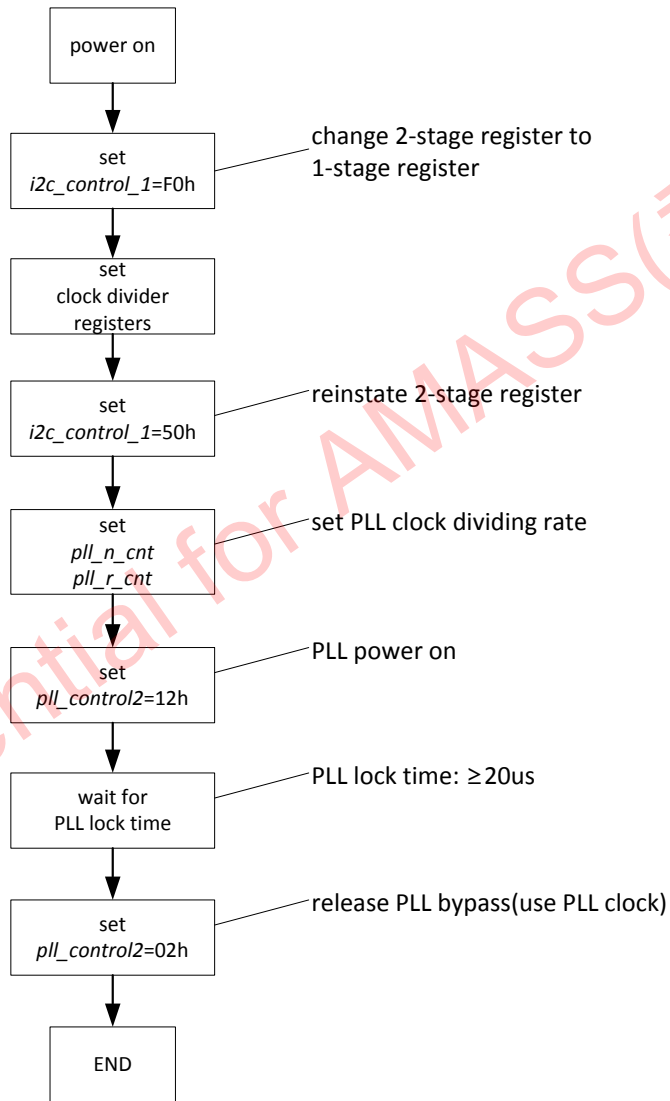

Figure 14 Clock setting sequence
- When using PLL, set-up sequence, show **Figure 14**, is necessary.